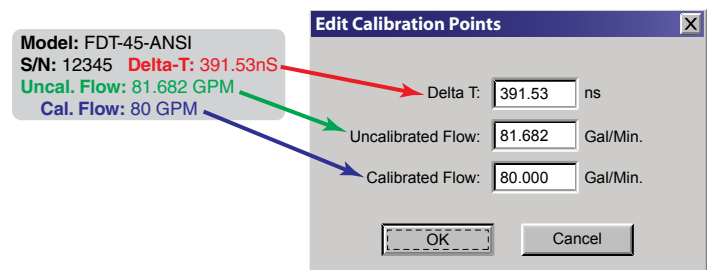

Figure 18: Edit calibration points
7. Enter Delta T, Un-calibrated Flow, and Calibrated Flow values from the FDT-41...46/FDT-41...46-xxx-HT calibration label, then click **OK**. See *Figure 18*.